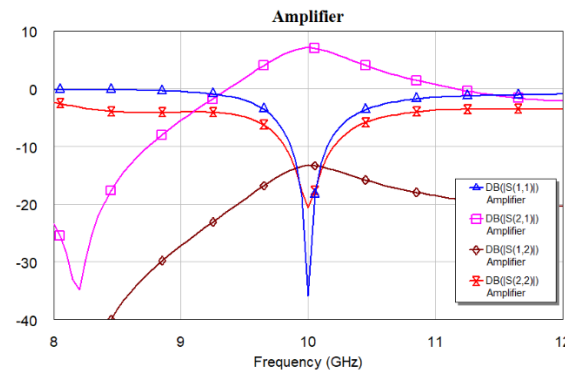

Fig. 11 Resulting S-parameters of the amplifier without bias circuits.
- Create a new graph of rectangular type and add measurements from the Amplifier schematic dB(abs(S11)), dB(abs(S21)), dB(abs(S12)) and dB(abs(S22)). Perform an analysis in the  $f_0 \pm 20\%$  frequency band of the resulting amplifier. The demo task leads to the results shown in Fig. 11.